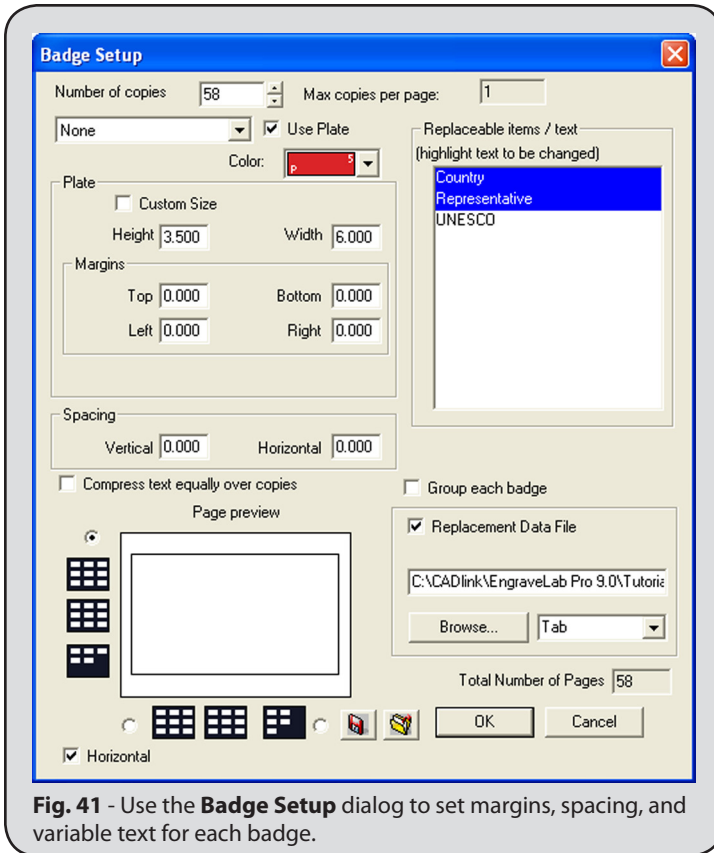

Fig. 41 - Use the **Badge Setup** dialog to set margins, spacing, and variable text for each badge.
2. Choose **Layout** menu >> **Badges** to open the **Badge Setup** dialog (Fig. 41).